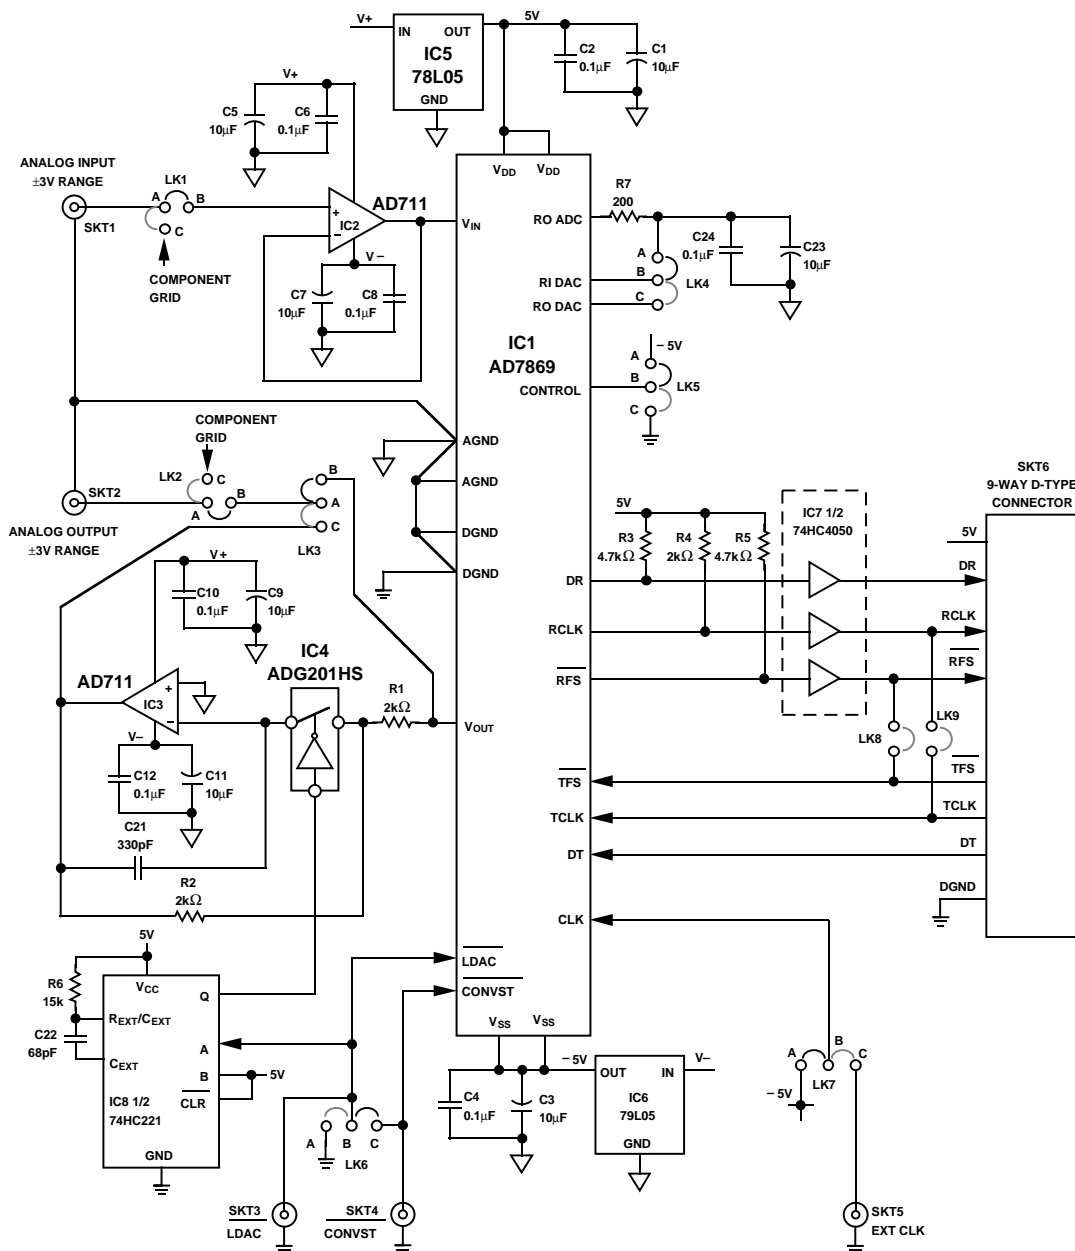
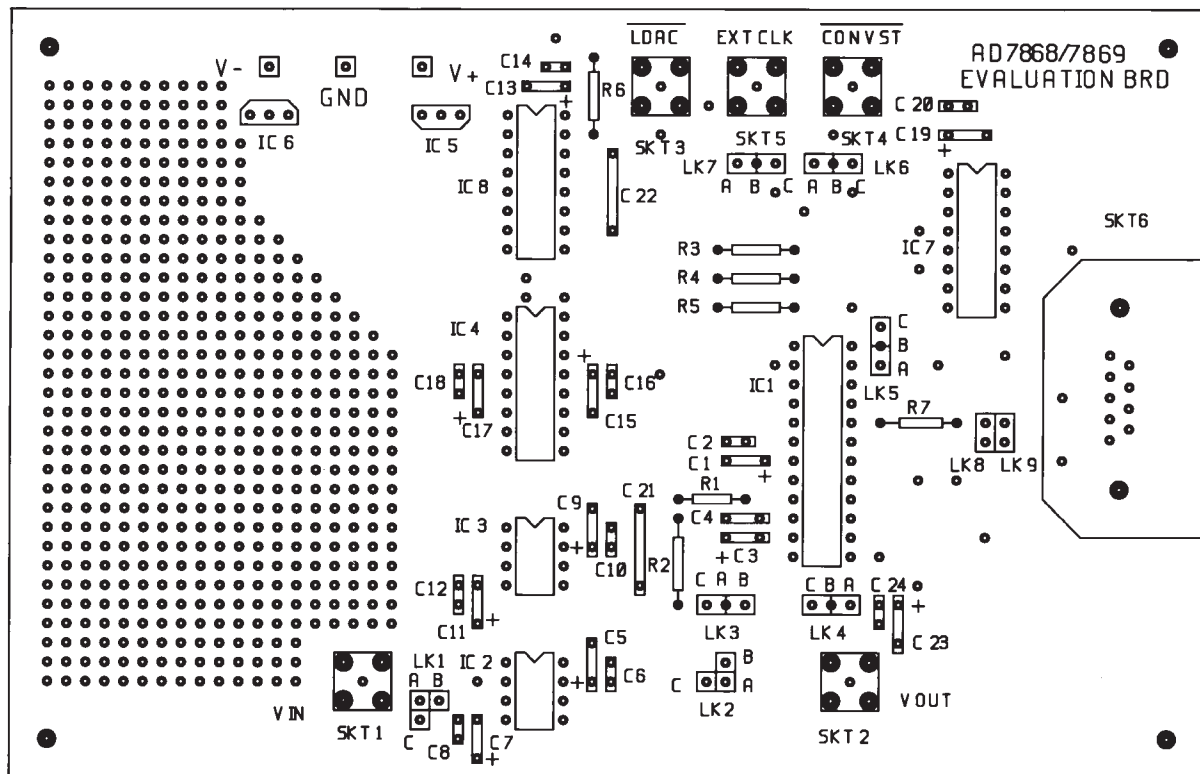

Figure 19. Input/Output Circuit Based on the AD7869
Figure 21. Silkscreen for the Circuit Diagram of Figure 19
Figure 19 shows an analog I/O board based on the AD7869. The corresponding printed circuit (PC) board layout and silkscreen are shown in Figures 21 to 23.
The PC board requires two analog power supplies and one 5 V digital supply. Connections to the analog supply are made directly to the PC board as shown on the silkscreen in Figure 21. The connections are labeled $V+$ and $V-$, and the range for both of these supplies is 12 V to 15 V. Connections to the 5 V digital supply are made through the D-type connector SKT6. The ± 5 V analog supply required by the AD7869 is generated from two voltage regulators on the $V+$ and $V-$ supplies.